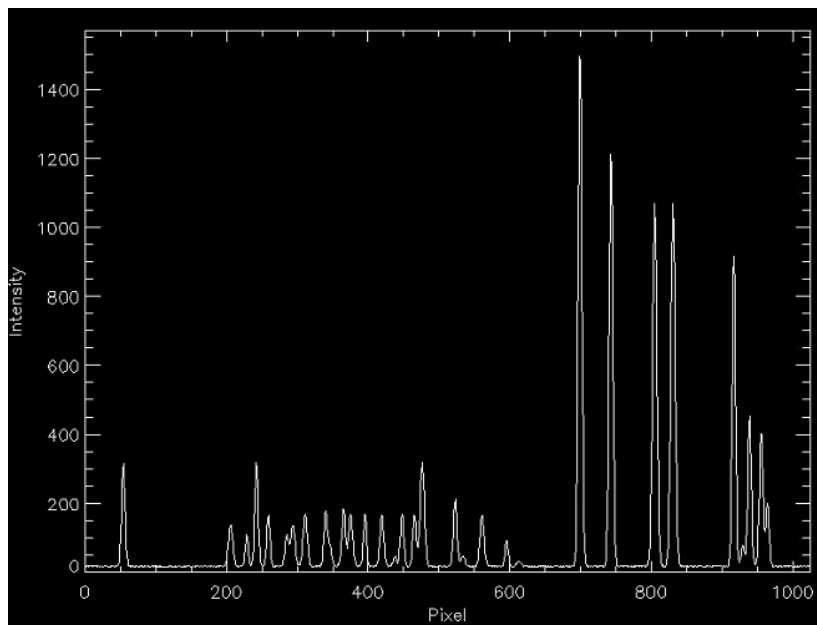

Figure 3. Spectrum of a Neon lamp in “Ne_calib.dat.”
Now you can obtain the wavelength solution of the spectrum in Figure 3 and determine the temperature of your blackbody. You need to follow the following steps for this.
1. Identify the wavelengths of the Neon lines in Figure 3 as many as possible using the information in Figure 4 and 5. Some nearby lines may overlap if their wavelengths are close.